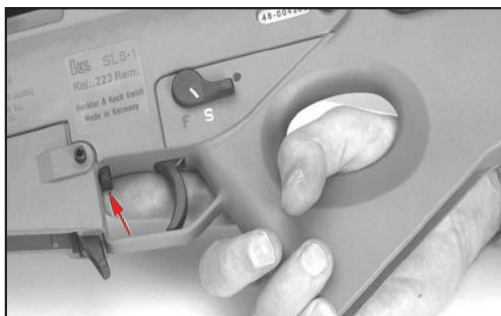

Figure 22 – Activate bolt catch, push upwards
3. Push the bolt catch button upward to lock the bolt open (rearward, see Figure 22).